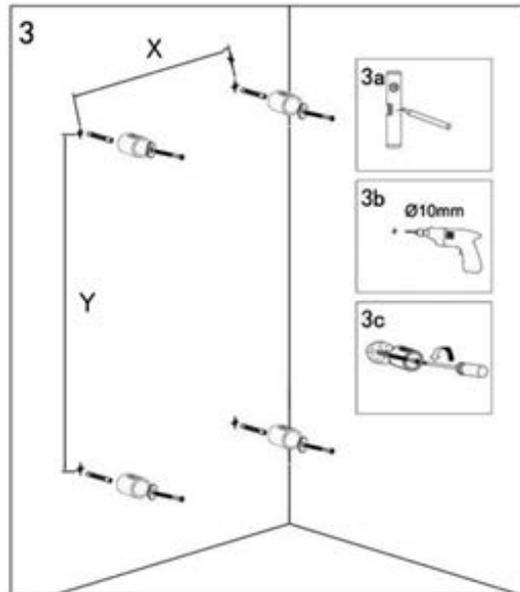

Figure 4 | Fixing the wall brackets
3. Choose a mounting position and affix the wall brackets accordingly, as shown in **Figure 4**.